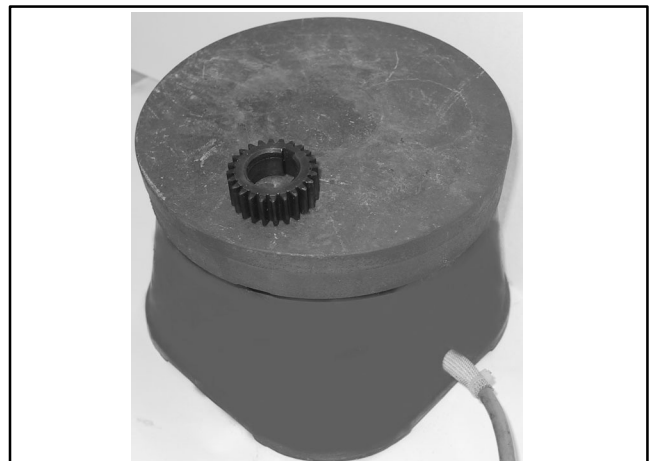

Figure 10-60 Crankshaft Gear
1. To install the crankshaft gear, heat it in an oil bath or on an electrical heater plate at a temperature of 90–100° C (195–210° F). See Figure 10-60.